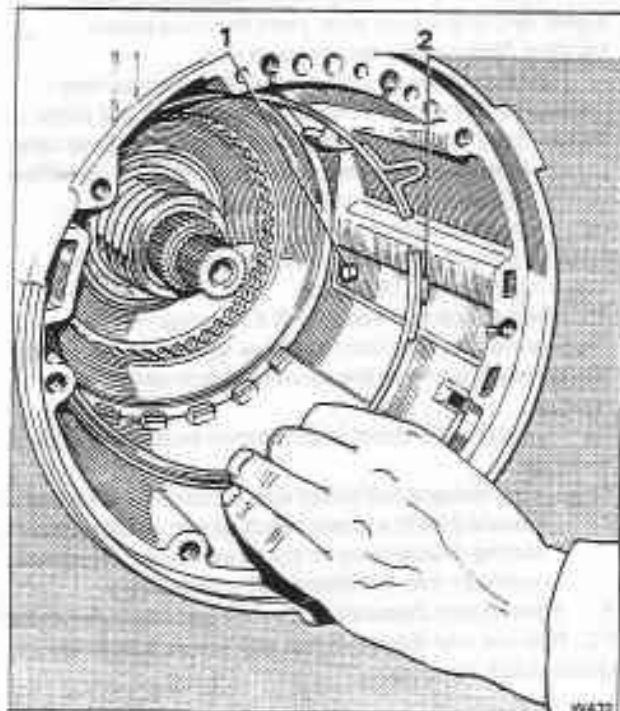

Fig. T19-11 Fitting the front band
1. Fit the front band so that the band anchor hole fits over the band anchor pin and the band apply lug faces the servo hole (see fig. T19-11).